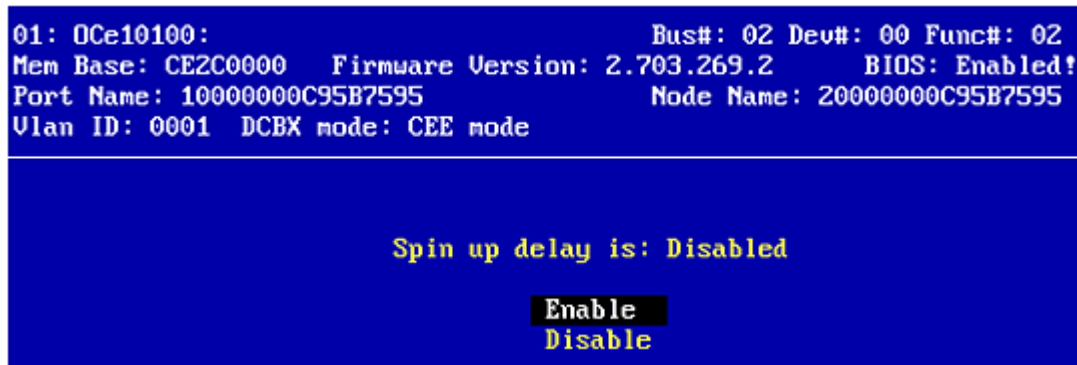

Figure 5-16 Enable or Disable Spinup Delay Screen
2. Select **Enable or Disable Spinup Delay** and press **<Enter>**. Information similar to Figure 5-16 is displayed.